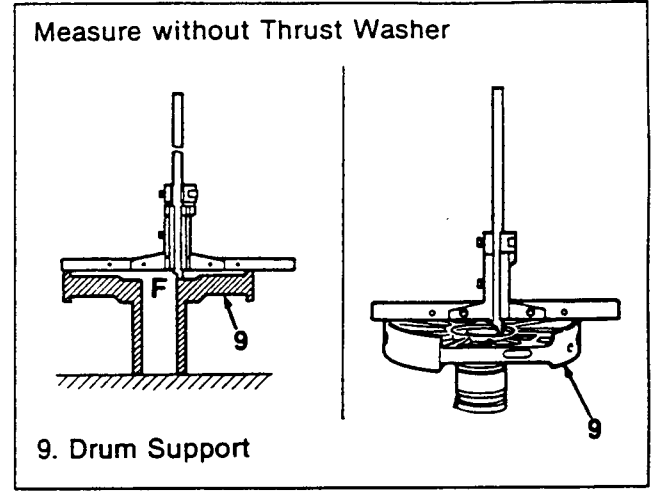

Figure 276. End Play Measurement (5)
11. Turn over the drum support and measure "F" with a depth gage (figure 276).